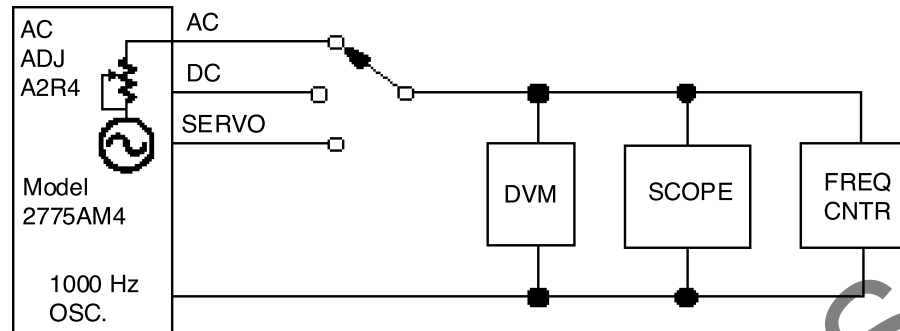

FIGURE 5-5: OUTPUT CALIBRATION
- A. Set FUNCTION switch to OUT CAL and monitor the AC OUTPUT (J12) with a frequency counter to verify a frequency between 950 and 1050 Hz. Monitor the DC OUTPUT (J14) for 10.0 Vdc + 150 mVdc (see Figure 5-5).